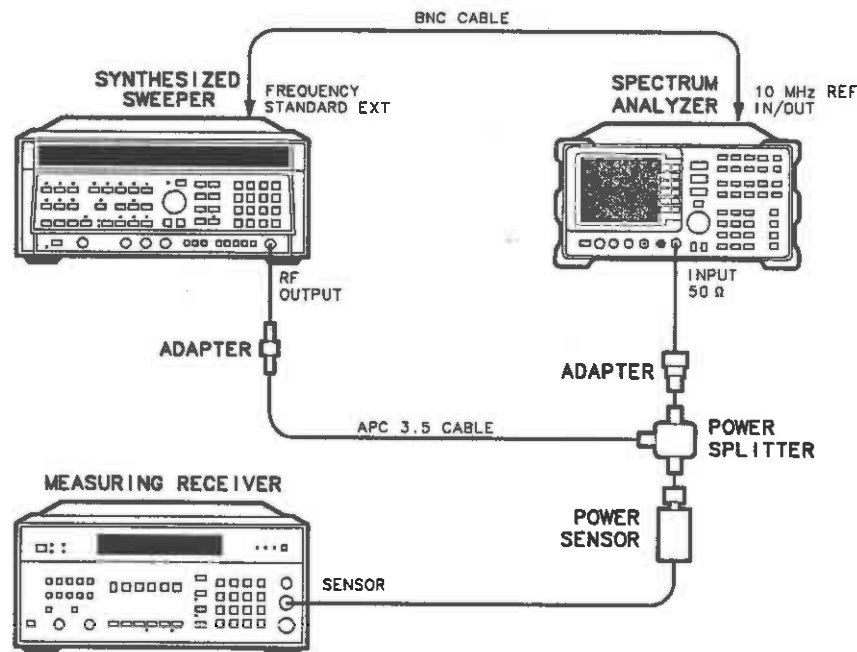

Figure 3-13. Image, Multiple, and Out-of-Range Responses Test Setup
1. Connect the equipment as shown in Figure 3-13, but do not connect the power sensor to the power splitter.